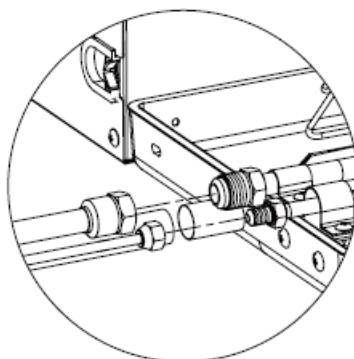

Fig. 4.4
(1) Remove pipe cover and pipe plug.
(2) Direct the flared part of copper pipe to the center of screwed joint. Twist on the flared nut tightly by hand, as in Fig. 4.4. (Make sure indoor pipe is correctly connected. Improper location of the center will prevent flared nut from being securely twisted. Thread of nut will get damaged if the flared nut is twisted forcibly.)